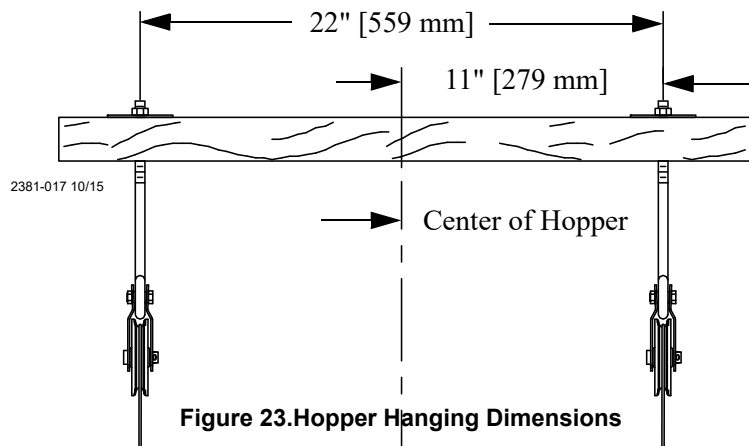

Figure 23.Hopper Hanging Dimensions
8. Install two pulleys to either a 2" x 8" [50x200 mm] board that will span at least 3 rafters or a 3/8" [9.5 mm] thick steel plate welded to two pieces of angle iron that are long enough to span at least 2 rafters. Install the pulleys directly above the feeder line where the hopper is to be located. The pulleys should be spaced 22" [559mm] apart (11" [279 mm] from the center of the hopper in both directions), **see figure 23.**